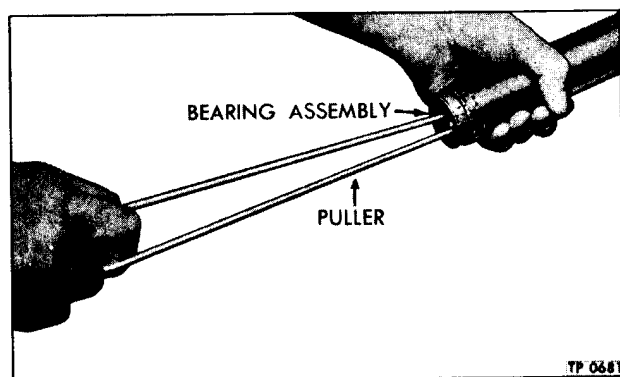

Figure 5—Removing Upper Steering Shaft Bearing
5. Using bearing puller (J-489), remove upper column upper bearing (fig. 5).
1. Remove four bolts and lock washers attaching steering column jacket and bevel gear housing upper cover assembly (1) to bevel gear housing (14). Lift jacket and cover assembly from bevel gear housing. Save shims (5, 6, and 7) used between cover and housing for reuse at assembly. Discard gasket (3).
2. Remove O-ring seal (2) from groove in upper cover (1). Discard seal.
3. While holding steering shaft (29) in a vise with soft jaws, remove pinion gear retaining nut (39) from end of steering shaft (29).
4. Using a brass drift and hammer, tap steering shaft (29) out of pinion gear (38). Remove gear, lower bearing (36), and two bearing races (35 and 37).
5. Remove steering shaft (29) from steering column jacket (1).
6. Remove steering shaft upper bearing (30) from jacket (1), using puller (J-489). Refer to figure 5.